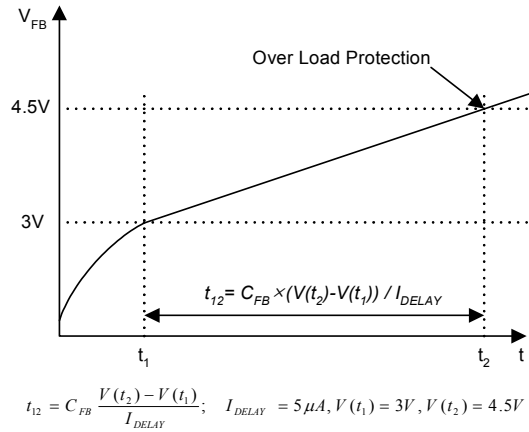

Figure 10. Over Load Protection (OLP)
4.1 Over Load Protection (OLP) : Overload is defined as the load current exceeding a pre-set level due to an unexpected event. In this situation, the protection circuit should be activated in order to protect the SMPS. However, even when the SMPS is operating normally, the over load protection (OLP) circuit can be activated during the load transition. In order to avoid this undesired operation, the OLP circuit is designed to be activated after a specified time to determine whether it is a transient situation or an overload situation. In conjunction with the Ipk current limit pin (if used) the current mode feedback path would limit the current in the Sense FET when the maximum PWM duty cycle is attained. If the output consumes more than this maximum power, the output voltage (Vo) decreases below its rating voltage. This reduces the current through the opto-coupler LED, which also reduces the feedback voltage (VFB). If VFB exceeds 3V, the feedback input diode is blocked and the 5uA current source (IDELAY) starts to charge Cfb slowly up to Vcc. In this condition, VFB increases until it reaches 4.5V, when the switching operation is terminated as shown in Figure 10. The shutdown delay time is the time required to charge Cfb from 3V to 4.5V with 5uA current source.